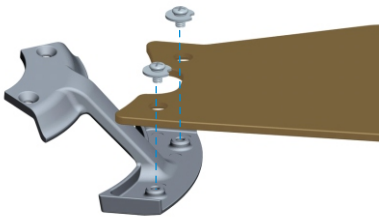

Fig 1.1
1.1 Locate 6 blade attachment screws with integrated washers, and bigger washers in the hardware pack. Secure each blade to the blade bracket with the screws and washers as shown in Fig 1.1.